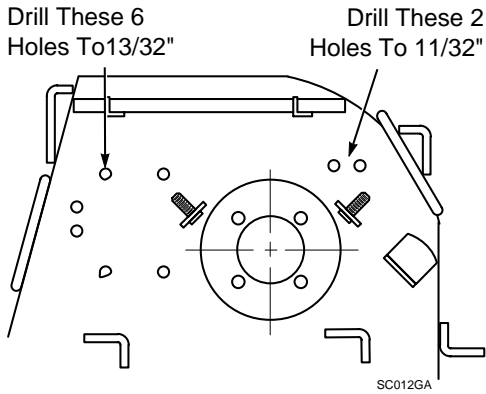

Figure 1
- Using a 13/32" drill bit, drill the six (6) holes as indicated in Figure 1. Using an 11/32" drill bit, drill the remaining two (2) holes.